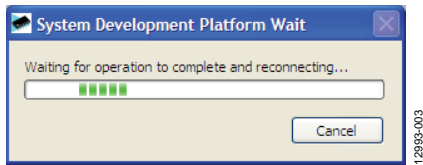

Figure 3. Connection Message
3. Click **Start > All Programs > Analog Devices > AD5676/AD5676R > AD5676/AD5676R Evaluation Software**. While the software connects to the evaluation board, the message in Figure 3 displays.